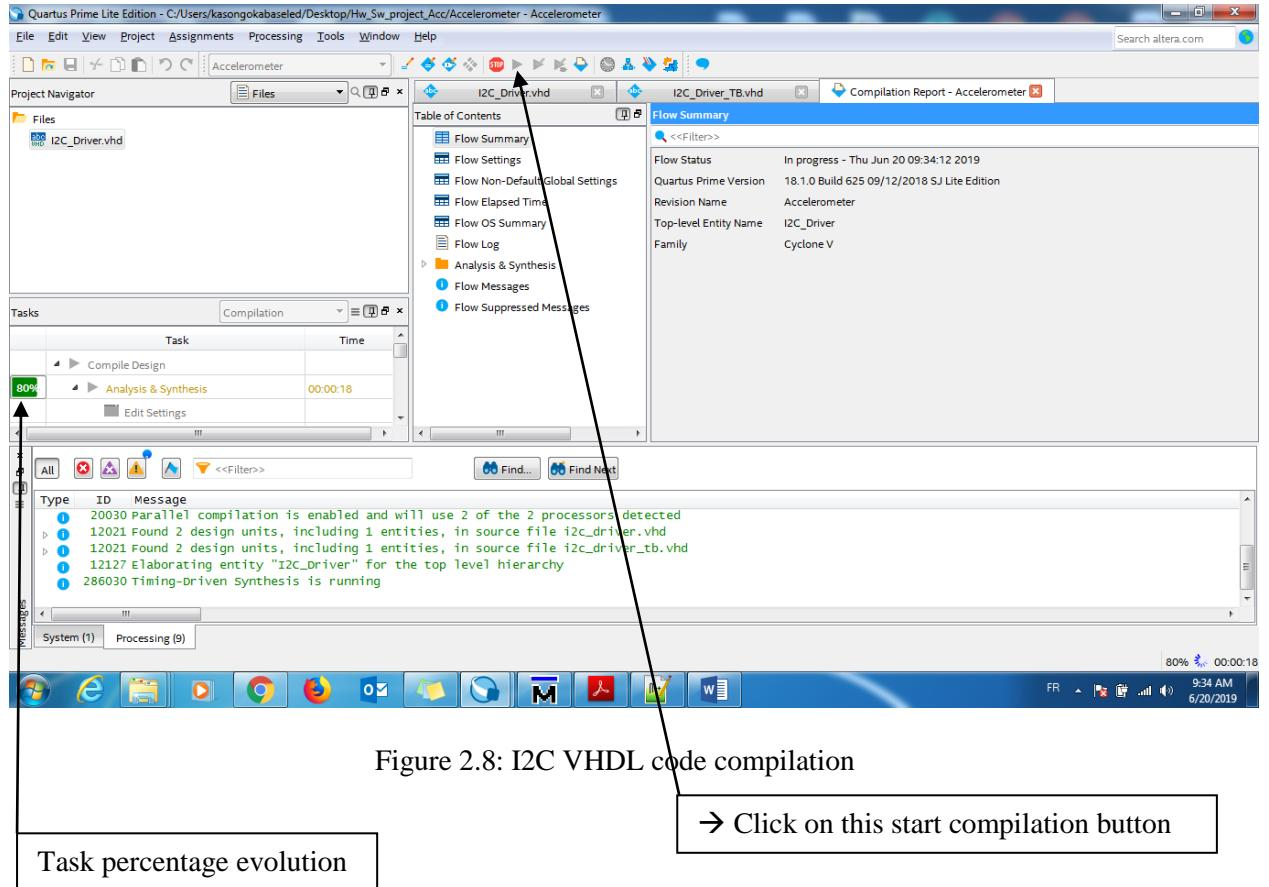

Figure 2.8: I2C VHDL code compilation
- Compile the I2C_Driver.vhd file (use the shortcut represented with a play symbol) as shown in the below print screen (Cf. Figure 2.8)